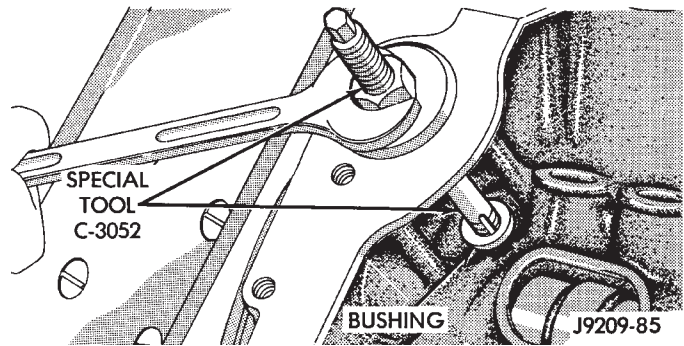

Fig. 21 Distributor Driveshaft Bushing Removal
- (1) Remove distributor. Refer to Group 8D, Ignition Systems for the proper procedure.
- (2) Remove the intake manifold. Refer to Group 11, Exhaust System and Intake Manifold.
- (3) Insert Distributor Drive Shaft Bushing Puller Tool C-3052 into old bushing and thread down until a tight fit is obtained (Fig. 21).
- (4) Hold puller screw and tighten puller nut until bushing is removed.